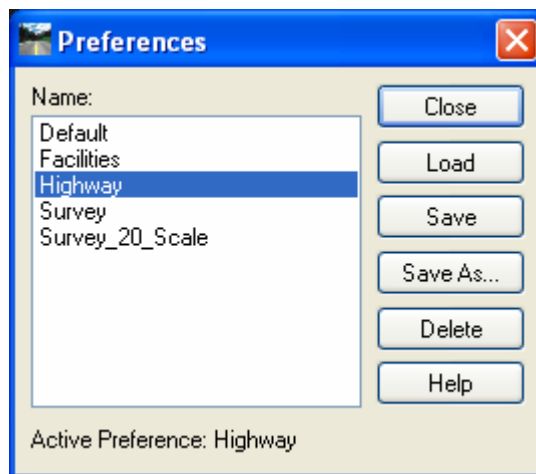

Figure 1-13 InRoads Preferences Dialog Box
- B. Select the **Preferences** Button and data point on the required discipline name. Select **Load** and **Close**. See Figure 1-13